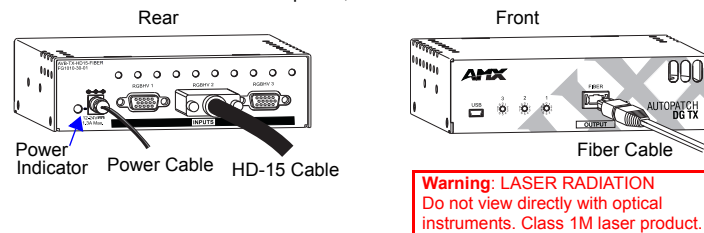

FIG. 3 Attach HD-15, power and fiber cables (TX module shown)
1. Check EDID switch on front of TX to be sure that it remains set to the right (WP).
2. For each source device, insert the HD-15 connector into the RGBHV (HD-15) jack on the rear of the TX (FIG. 3, left). The connector number corresponds to the channel number. For HD-15 pinout, see FIG. 5 on reverse.
4. Insert the MTP/MPO plug on one end of the fiber cable into the Fiber (MTP/MPO) jack on the front of the TX (FIG. 3, right).